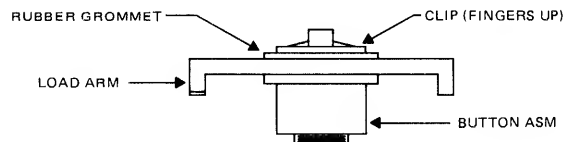

FIGURE 13
e. To install load button on metal arm, place the new button on the arm. On the back of the arm place the rubber grommet. Holding the button, push the clip over the plastic stud until it is tight against the rubber grommet. Reference Figure 13.